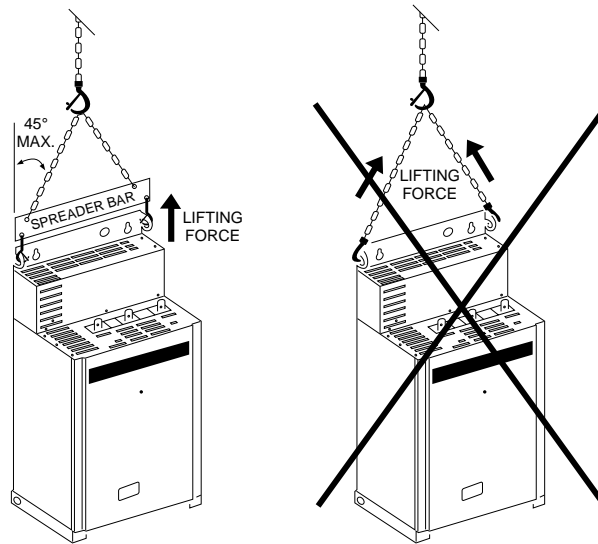

Figure 1-1 Hoisting the 50 to 125 hp Controller
- With a hoist, attaching a spreader bar to the two lifting rings on top of the drive controller as shown in Figure 1-1, or
<p>HAZARD OF SEVERE PERSONAL INJURY OR DEATH. Keep area below any equipment being lifted clear of all personnel and property. Use lifting method shown below in Figure 1-1. Failure to observe these precautions can result in severe personal injury or death!</p>